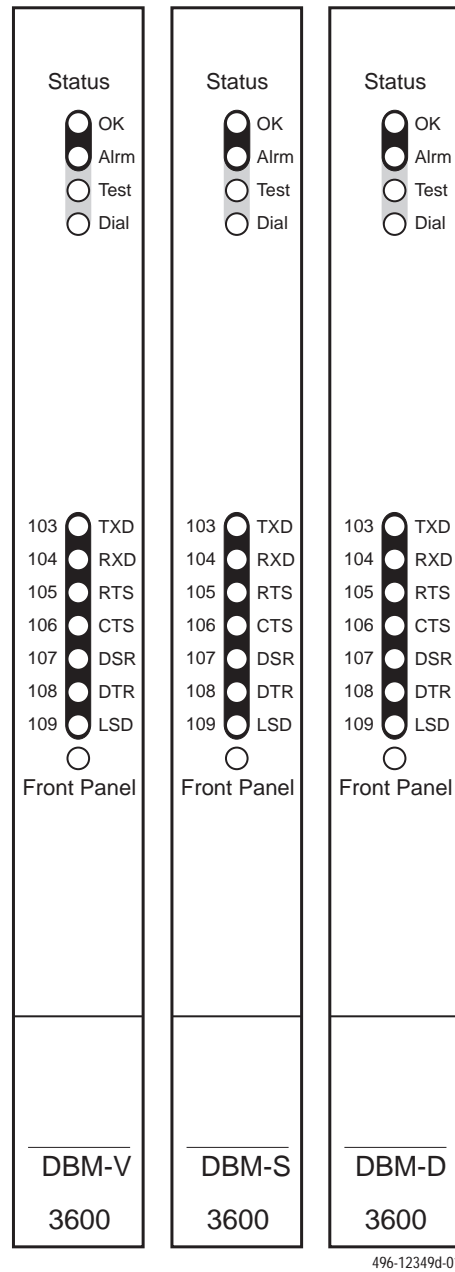

Figure 5-3. DBM-V, DBM-S, and DBM-D Faceplates
- Faceplate of the DBM-V, DBM-S, or DBM-D, if installed (Figure 5-3)